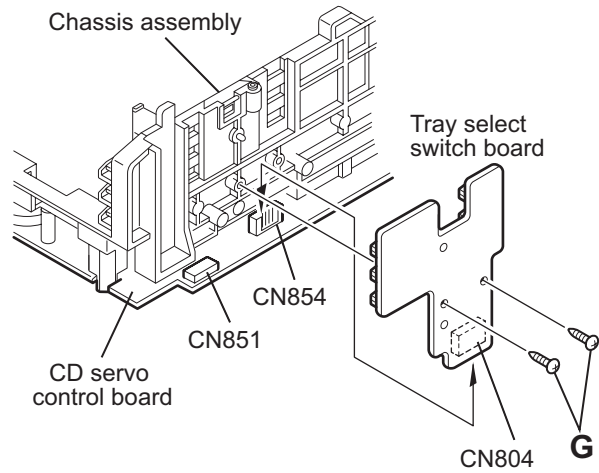

Fig.14
3.3.6 Removing the tray select switch board (See Fig.14)